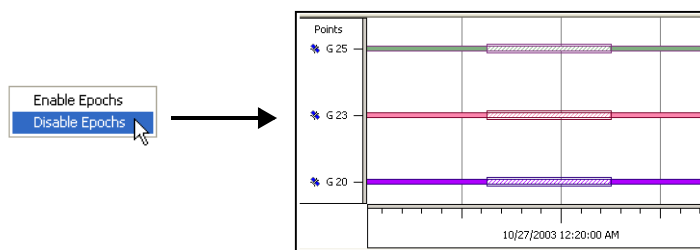

Figure 6-7. Disable Selected Epochs
- Once selected, right-click within the view and click **Disable** (or **Enable**) on the pop-up menu. Disabled epochs display with slanting lines (Figure 6-7).